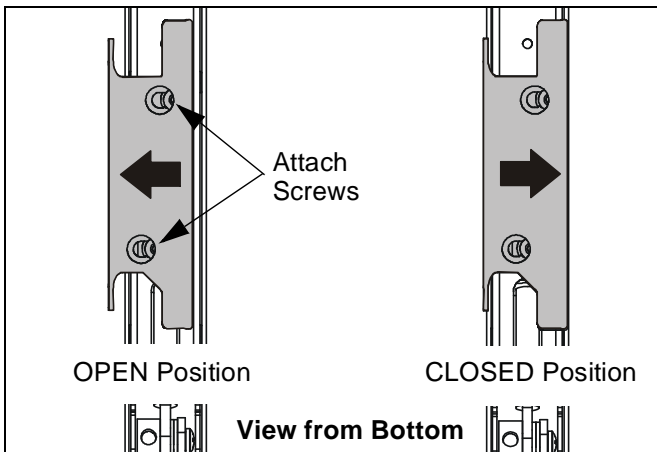

Figure 9
3. Open the cable management bracket by sliding it towards the edge of the arm. (See Figure 9)
5. Close cable management bracket by sliding it back towards the centerline of the arm. (See Figure 9)